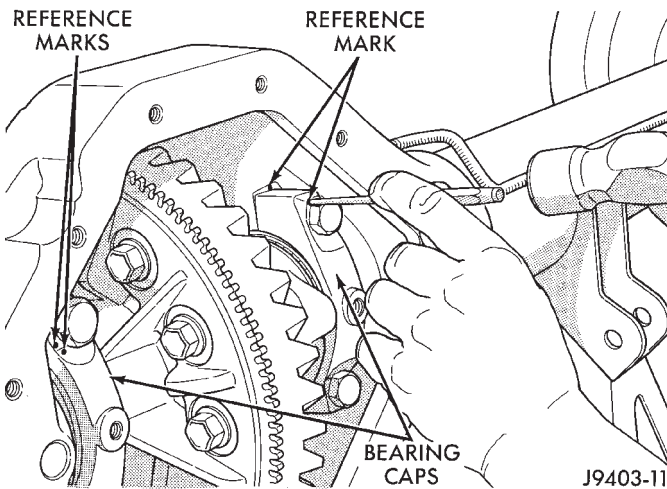
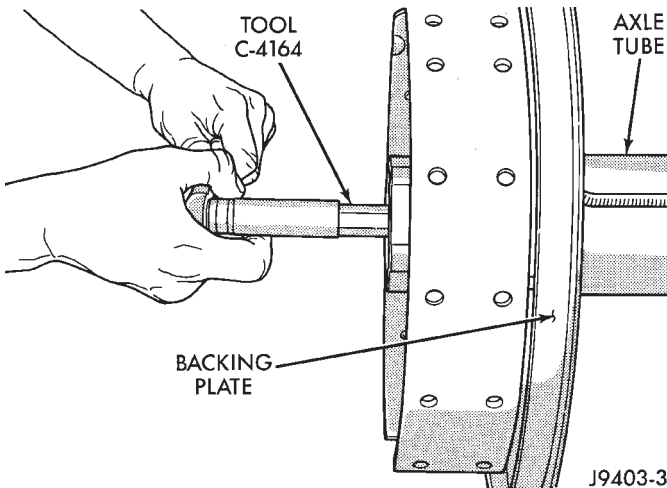

Fig. 18 Mark For Installation Reference
Fig. 19 Threaded Adjuster Tool
(3) Mark the differential housing and the differential bearing caps for installation reference (Fig. 18).
(4) Remove bearing threaded adjuster lock from each bearing cap. Loosen the bolts, but do not remove the bearing caps.
(5) Loosen the threaded adjusters with Wrench C-4164 (Fig. 19).
(6) Hold the differential case while removing bearing caps and adjusters.
(7) Remove the differential case.